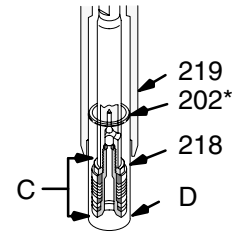

Fig. 28
- Insert the piston rod assembly (C) into the **top of the sleeve (218)**. Install the gasket (202*) on the sleeve. Slide the sleeve assembly into the **bottom of the cylinder (219)**. Note that the tapered end (D) of the sleeve is at the bottom. See Fig. 28.